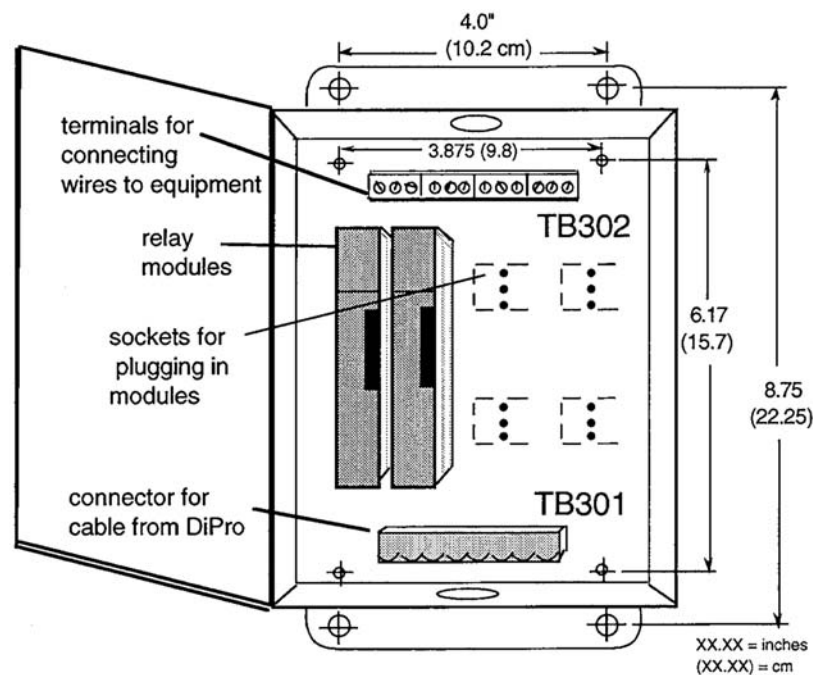

Figure 2-11B. Output enclosure for Spectrum-style relay relays
- a. If you are using only *standard relays* in your programmable cam (not optional solid state relays), they are plugged into channels 1 through 8 — slots labeled K301 through K305, K307, K309, and K311 (see Figure 2-11b).